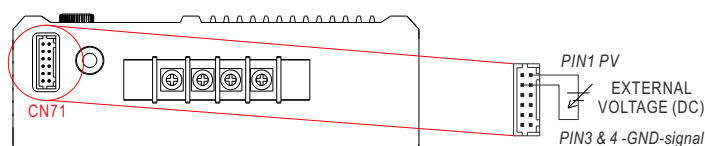

Figure 3-1 Connection of external DC voltage source
- (1) Connect output of the external DC source to PV (PIN 1) and GND (PIN 3 or PIN 4) on CN71, as shown in Figure 3-1.